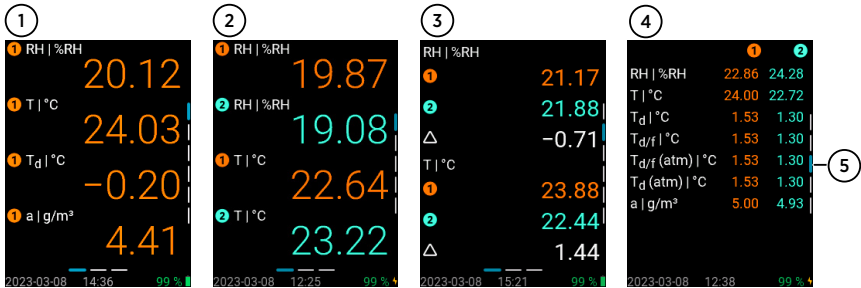

Figure 4 Types of measurement views in Indigo80
- 1 Two types of templates are available for new views (for examples of different types of measurement views, see Figure 4 \(page 17\)):